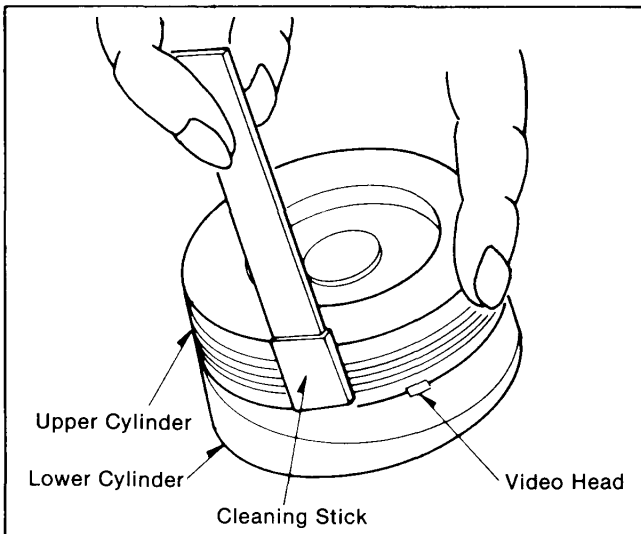

Figure M4
3. Repeat for the other video heads. (Figure M4)